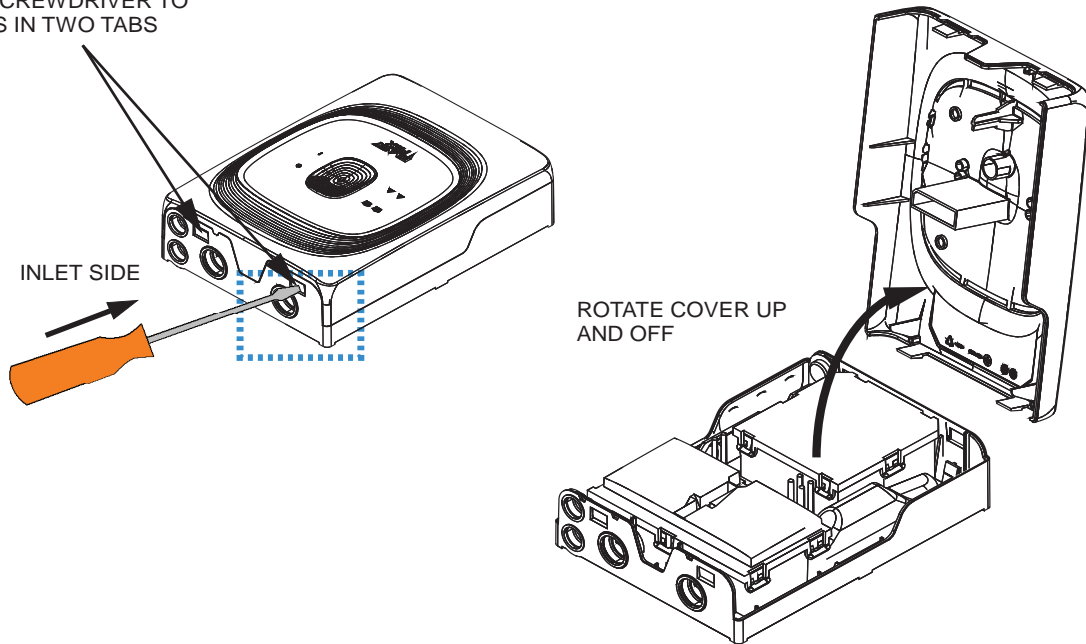

Figure 7-4: Removing the Cover
1. Using a small screwdriver or other suitable tool, press in the two **tabs on the inlet side of the FAAST FLEX** (see Figure 7-4).
4. Remove the cover as shown in Figure 7-4.